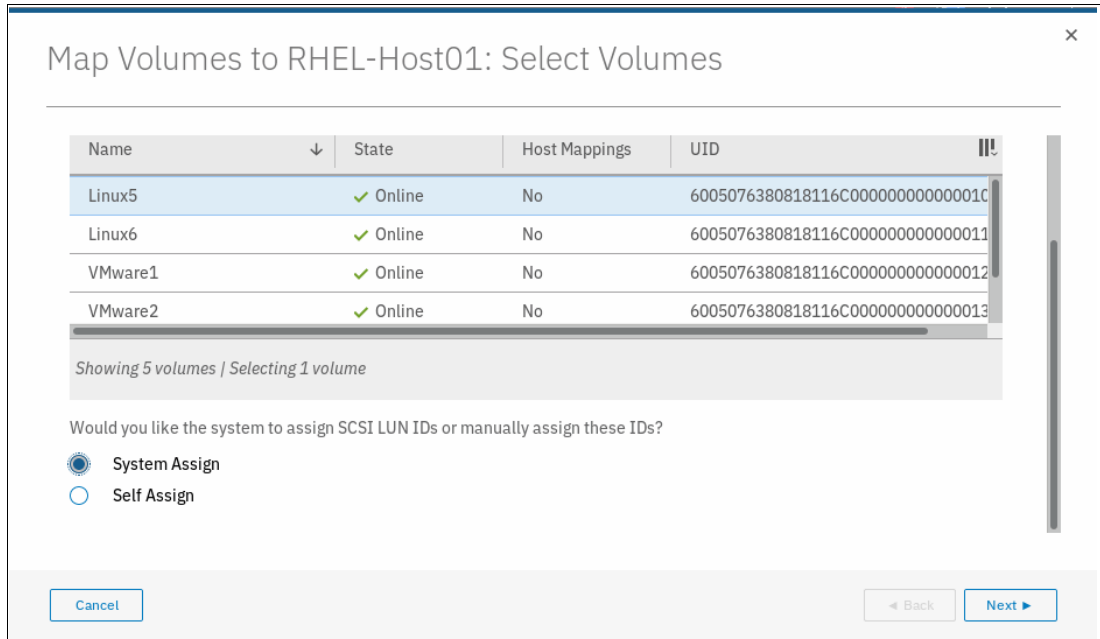

Figure 8-5 Select volumes to map to host
2. Click **Add Volume Mappings**. A window opens in which all of the other volumes that can be mapped to the selected host are listed, as shown in Figure 8-5.